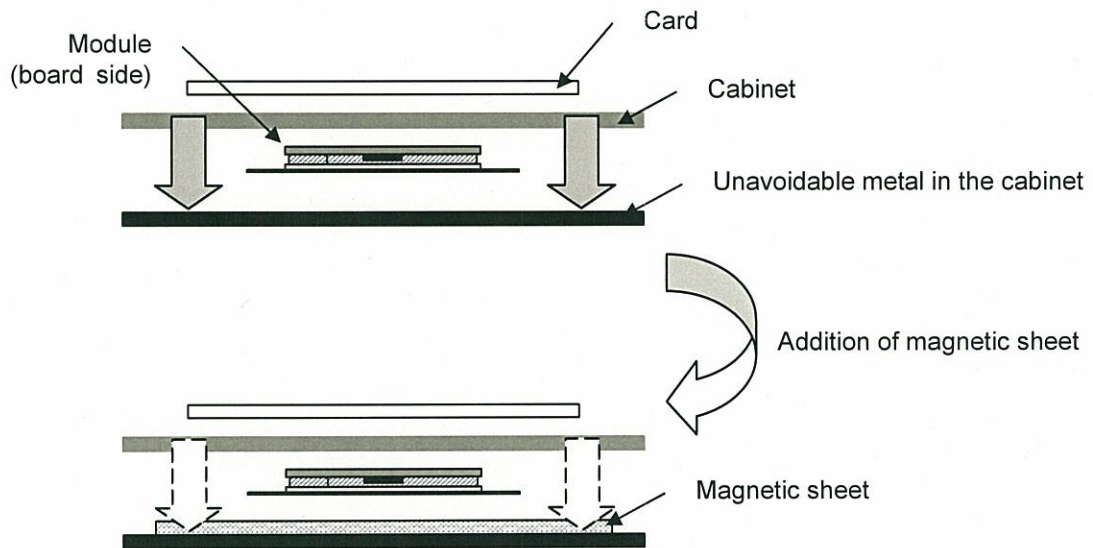

Figure A-2: Reduction of the impact of metal
4. If no performance improvement is achieved through the steps described above, attempt to add magnetic sheets, as shown in Figure A-2, to the metal surface that faces the card and keep away the module from a metal plate at least 0.5 mm ($d > 0.5$).